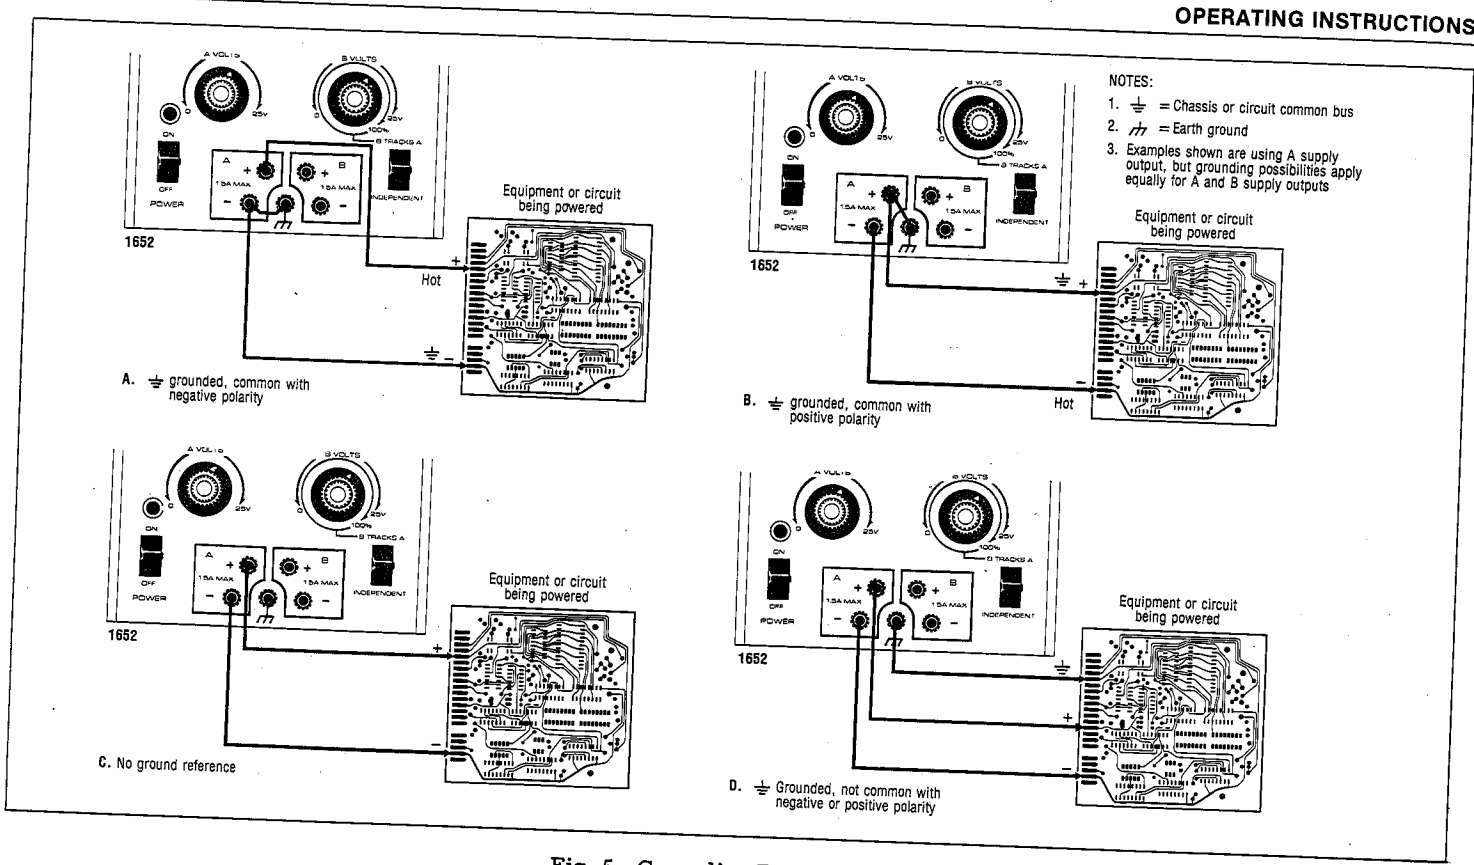

Fig. 5. Grounding Possibilities.
3. Make earth ground connection, if required, as shown in Fig. 5.
3. Fig. 5 illustrates the grounding possibilities. If the negative polarity of the equipment or circuit being powered is also the chassis or common bus, it may be grounded to earth by strapping the (-) terminal to the earth ground terminal (\llcorner) as shown in Fig. 5A. Similarly, the positive polarity can be grounded by strapping the (+) terminal to the earth ground terminal as shown in Fig. 5B. If an earth ground reference is not required, the configuration in Fig. 5C may be used. If the chassis or common bus is separate from both the positive and negative polarity power inputs, use the connection in Fig. 5D. The scheme in Fig. 5D should also be used where +, -, and chassis connections are possible and it is not known whether or not the chassis is common with either the positive or negative polarity. No damage can result if this configuration is used.